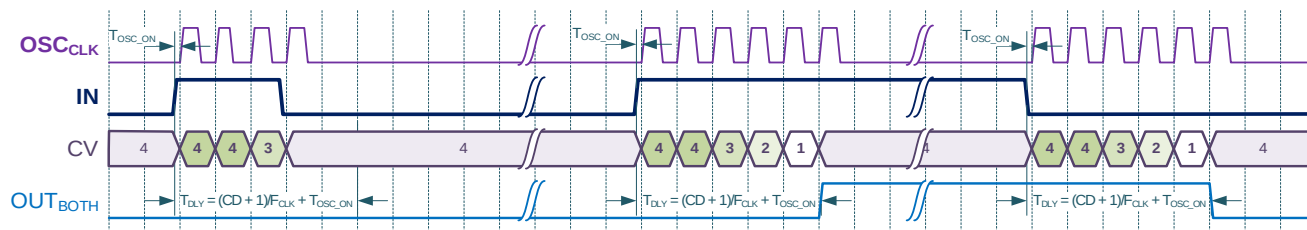

Figure 9.7. Delay Mode Timing Diagram (Both Edge Detect, Auto OSC)
In Delay mode, the TMR delays the input signal by the selected edge event (rising edge, falling edge, both edges) for a time determined by the Control Data, input clock signal, and selected divider value. If input signal is shorter than the delay value, the signal does not propagate to the output. The timing diagrams of this mode are shown in Figure 9.2...Figure 9.7.
- Delay (Figure 9.2...Figure 9.7)